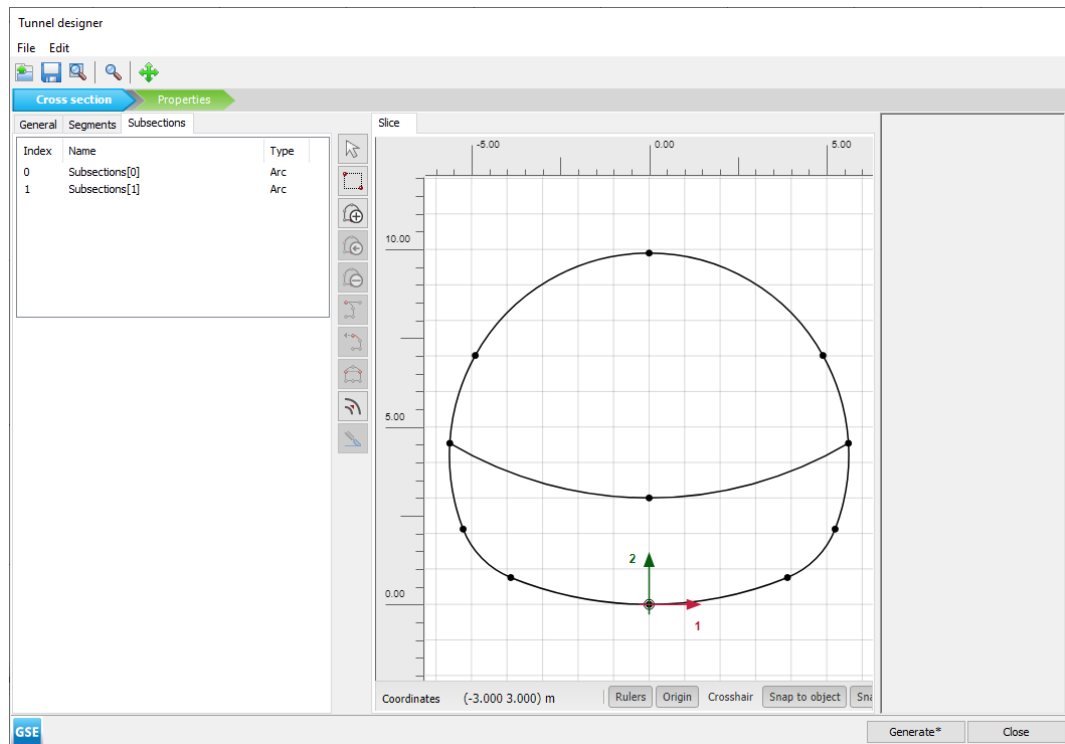

Figure 6–4: Segments in the tunnel cross section
- 17 The various segments in the tunnel cross section can be seen in Figure 6–4 \(p. 114\).